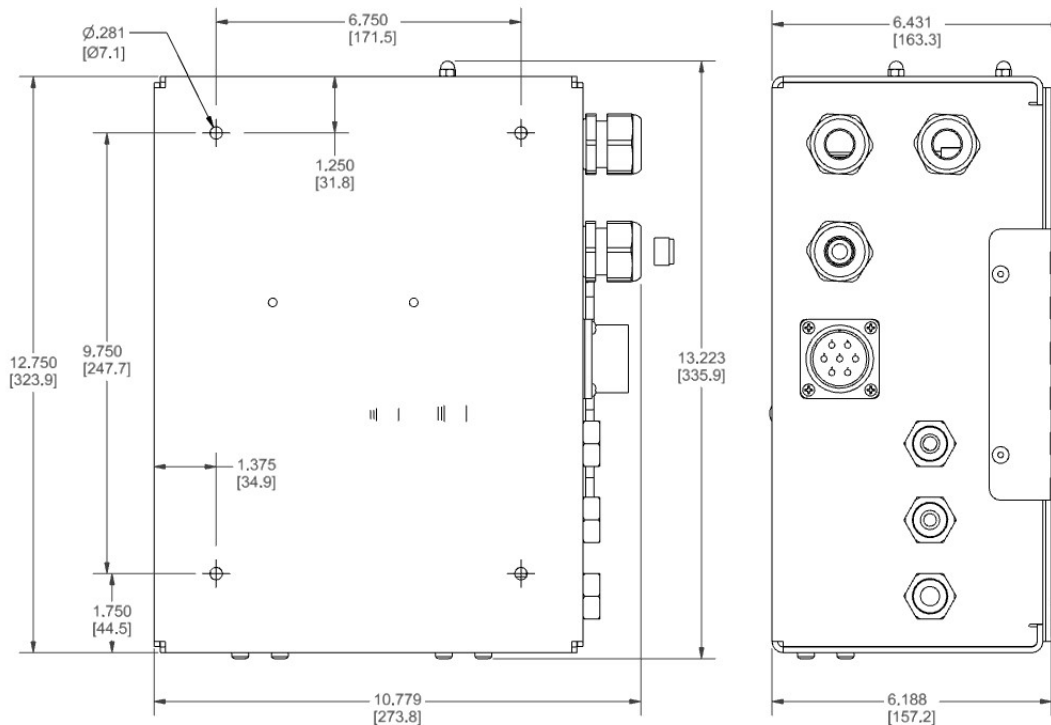

Figure 5-14 Night Scan Vertical Control Box Mounting Hole Locations
2. Open the cover and mount the unit through the four clearance holes located on the rear side of the control box (Figure 5-14).
When nesting the mast, exhaust air will exit the control box through the port labeled “Air - Exhaust” (see Figure 5-14). The exhaust air hose and fitting are supplied by the customer. The port is a female 1/4 inch NPT. It is recommended to use a larger inner diameter air hose and fitting than the supply port to not restrict the exhaust flow rate (slows mast retraction rate) and also to prevent someone from accidentally connecting the air supply to the exhaust port. The other end of the exhaust air hose should be routed to a location that does not allow exiting air to contact personnel or sensitive equipment as moisture may be discharged.